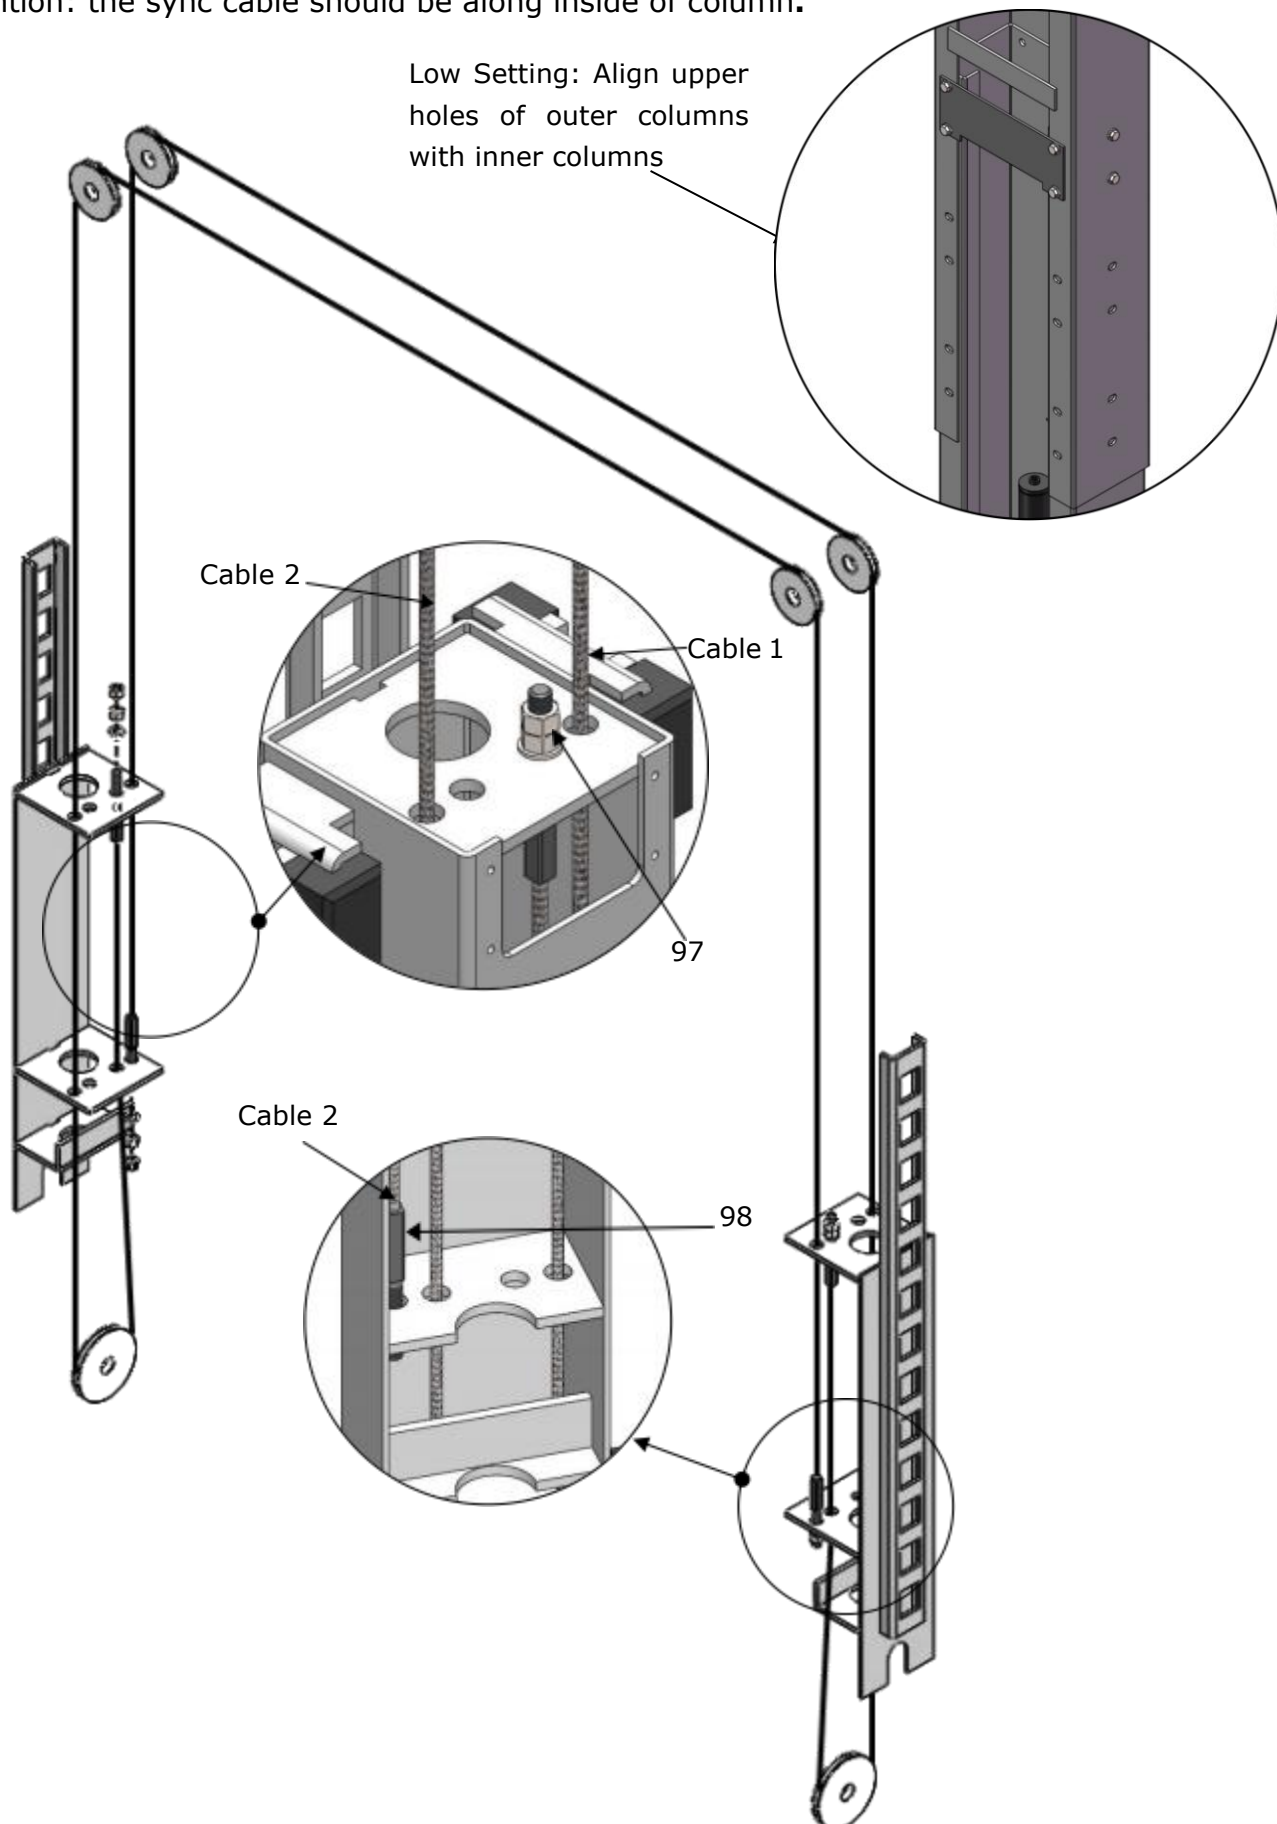

Fig. 31
3. Sync cable connection of low setting installation. (See Fig. 31)